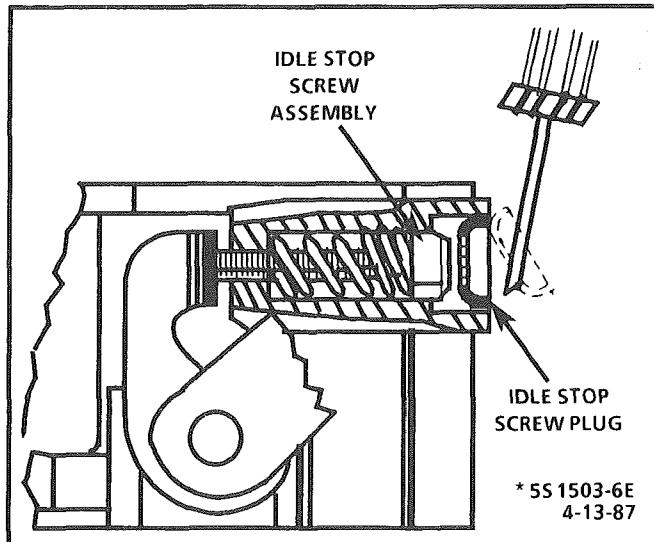

Figure C2-18 Removing Idle Stop Screw Plug
The idle stop screw (16), used to regulate minimum idle speed of the engine, is adjusted at the factory, then is covered with a plug (15) to discourage unnecessary readjustment. However, if it is necessary to gain access to the idle stop screw assembly, proceed as shown in Figure C2-18.